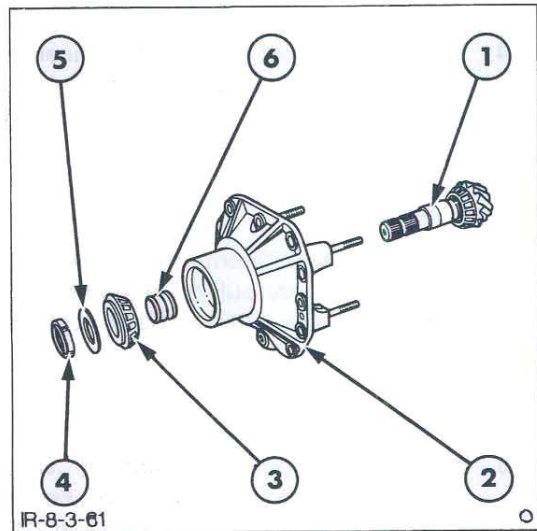

Figure 61
13. Drive the pinion from the differential support housing and collect the collapsible spacer and outer bearing inner race Figure 61.